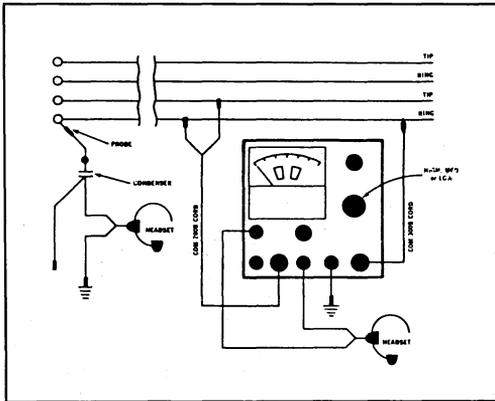
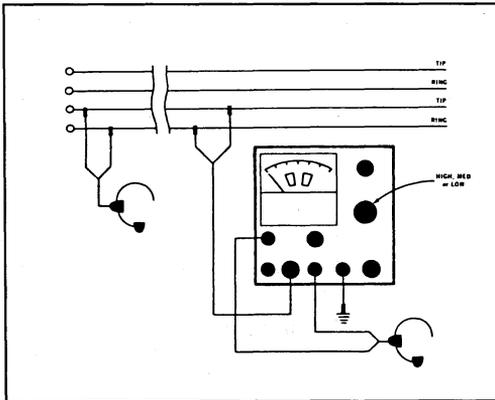
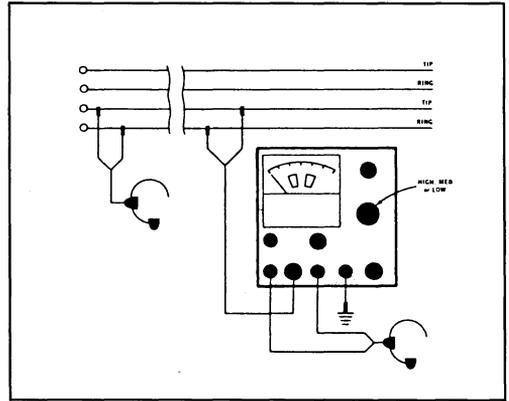

FIGURE 9
FIGURE 10
FIGURE 11
3.02 To establish the talk circuit, send the cord connections and set the switches as shown in Figure 9. The unit will send tone on the pair selected for talking. The craftsman at the far end will search the cable for the pair with the tone, either directly using his headset, or with the aid of an amplifier (not shown). When the pair with the tone has been identified, the far-end craftsman connects his headset directly across this pair. This causes a distinct loud signal from the headset of the craftsman with the PR25A. See Figure 10. On receiving this signal, the craftsman removes the headset clip from the WAIT pin and connects it to the REC pin, which completes the talk circuit. See Figure 11.